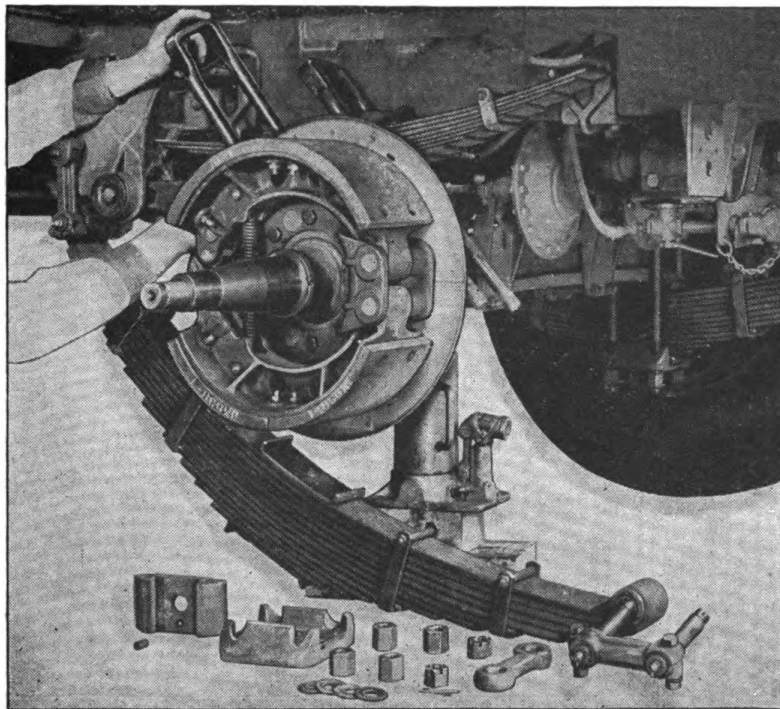

FIGURE 71. SPRING REMOVAL—SEMI-TRAILER.
1. MAIN SPRING REMOVAL—SEMI-TRAILER (Fig. 71).—*a.* Place jack under rear crossmember at side from which you intend to remove the spring. Place another jack under axle to hold the axle in position.
2. REMOVING AUXILIARY SPRING—SEMI-TRAILER (Fig. 71).—*a.* Jack under rear crossmember. Do not jack under axle.